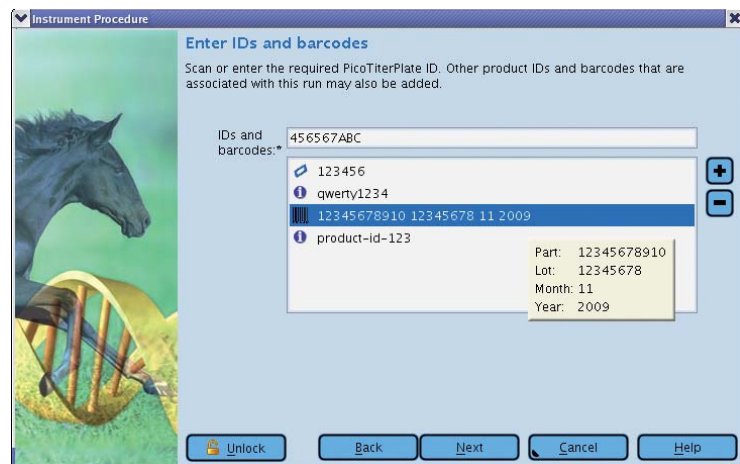

Figure 20: The Run Wizard's second window: Enter IDs and barcodes
► This opens the Run Wizard's second window: Enter IDs and barcodes (Figure 20).